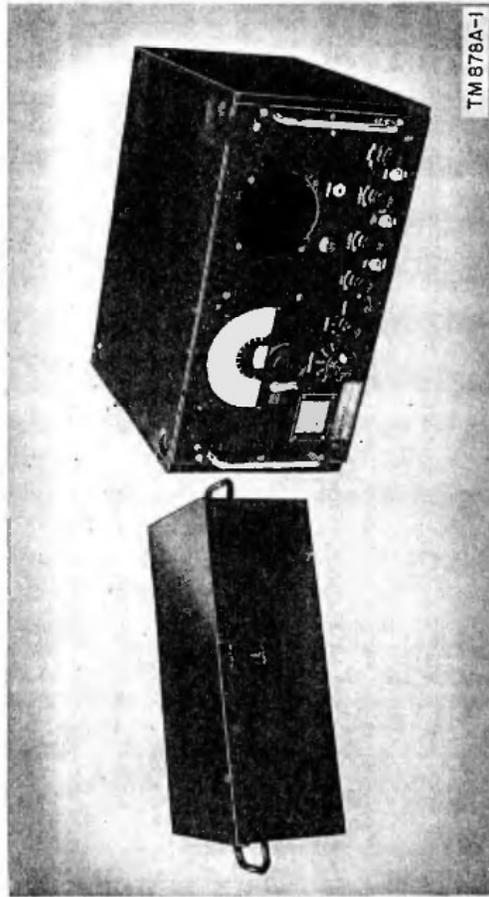

Figure 1. Radio Receiver R-96A/SR and spare parts box.
a. This manual contains instructions for the installation, operation, maintenance, and repair of Radio Receiver R-96A/SR (figs. 1 and 2). In addition to these instructions, there are two appendices covering a list of references and an identification table of parts.
a. Radio Receiver R-96A/SR (fig. 1) is an 11-tube superheterodyne receiver designed for marine use on harbor and seagoing vessels. The power supply is self-contained within the receiver, making the unit completely independent. The receiver is designed for satisfactory operation under the extreme conditions of temperature, humidity, and vibration, which are often encountered in marine service. It is specially treated to resist the attacks of fungi which may be encountered in tropical areas. An outside case (dust cover) is provided with each receiver so that it can be mounted on a desk or table.
7. Table of Components (fig. 1)